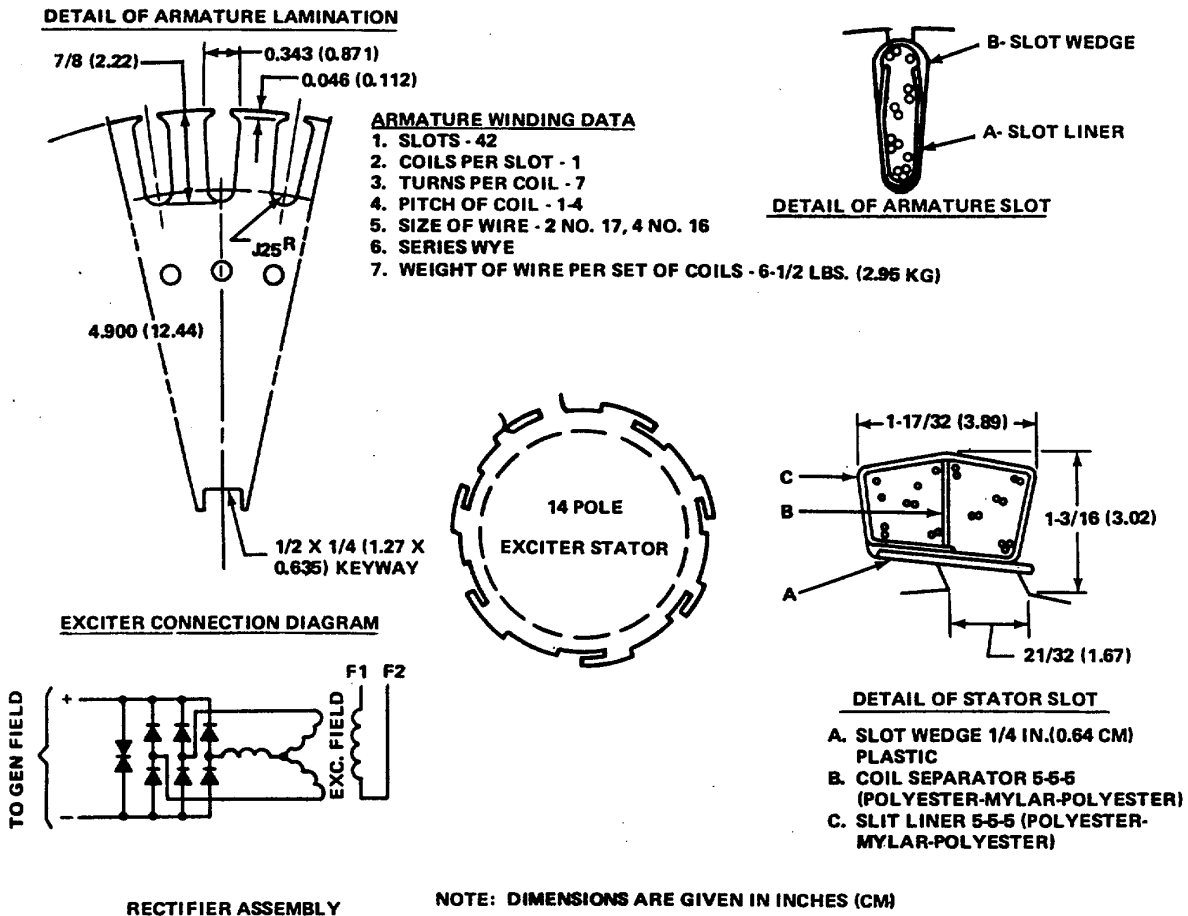

Figure 11-20. Exciter Rotor Winding Data
- (s) Apply slot liner insulation 5-5-5 (item (C)) and coil separator (item (B)) as shown in stator slot detail, figure 11-20.
- (2) Apply varnish to any damaged areas of insulation.
- (3) Replace damaged excitor rotor.
- e. Rebuild. Rebuild exciter rotor as follows: (See figure 11-20.)
- (1) Inspect winding slots for any sharp corners at edge and in slot. Clean up as necessary.
- (2) Wind armature coils using
number of turns and wire per winding date. (See figure 11-20).
- (3) Sleeve leads with flexible braided glass treated sleeving.
- (4) Apply slot liner insulation 5-5-5 (polyester-mylarpolyester) as shown in slot detail, Item A, figure 11-20.
- (5) Make pole series wye connections per winding diagram. (See figure 11-20.)
- (6) Insert slot wedge (Item B) in slot as shown in slot detail and extend 1/4 inch (0.35 mm) beyond armature.
- (7) Make high potential test. Test voltage to be 1500